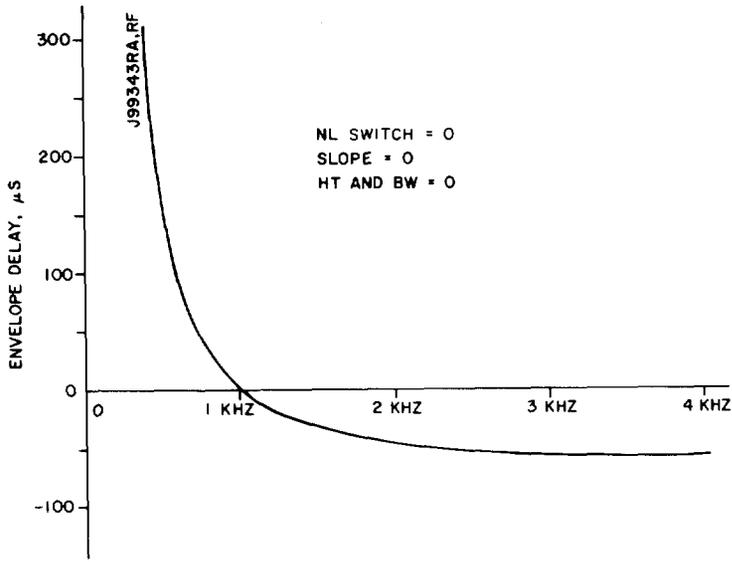
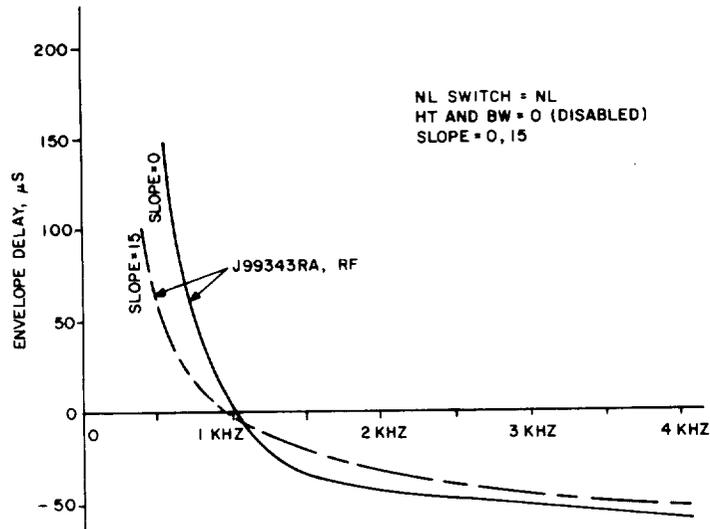
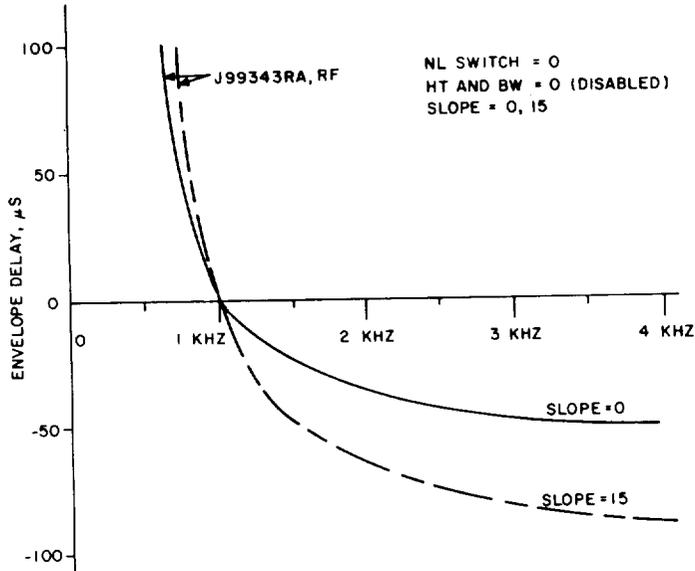

Fig. 12—Envelope Delay Distortion of J99343RA, RF Repeaters—Equalizer Disabled
Fig. 13—Envelope Delay Distortion of J99343RA, RF Repeaters—Slope = Variable, NL = NL
Fig. 14—Envelope Delay Distortion of J99343RA, RF Repeater—Slope = Variable, NL = 0
6.03 Figures 12 through 16 give the envelope delay distortion (EDD). Figure 12 shows the EDD for the repeater units with the equalizer disabled. Figure 13 shows the EDD for various SLOPE settings with the NL switch set to interface nonloaded cable. Figure 14 shows the EDD for the same SLOPE settings with the NL/L switch set to interface loaded